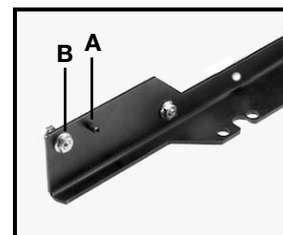
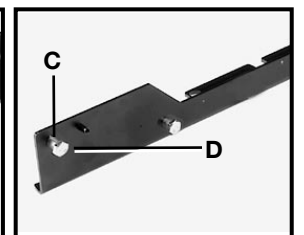

Fig. 5A
Fig. 5B
4. Install and center the four (4) roll pins (A) Fig. 5A in each support bracket. Install eight 3/4" hex head screws (B) Fig. 5A with bushings (C) Fig. 5B and flange nuts (D) Fig. 5B on the inside.